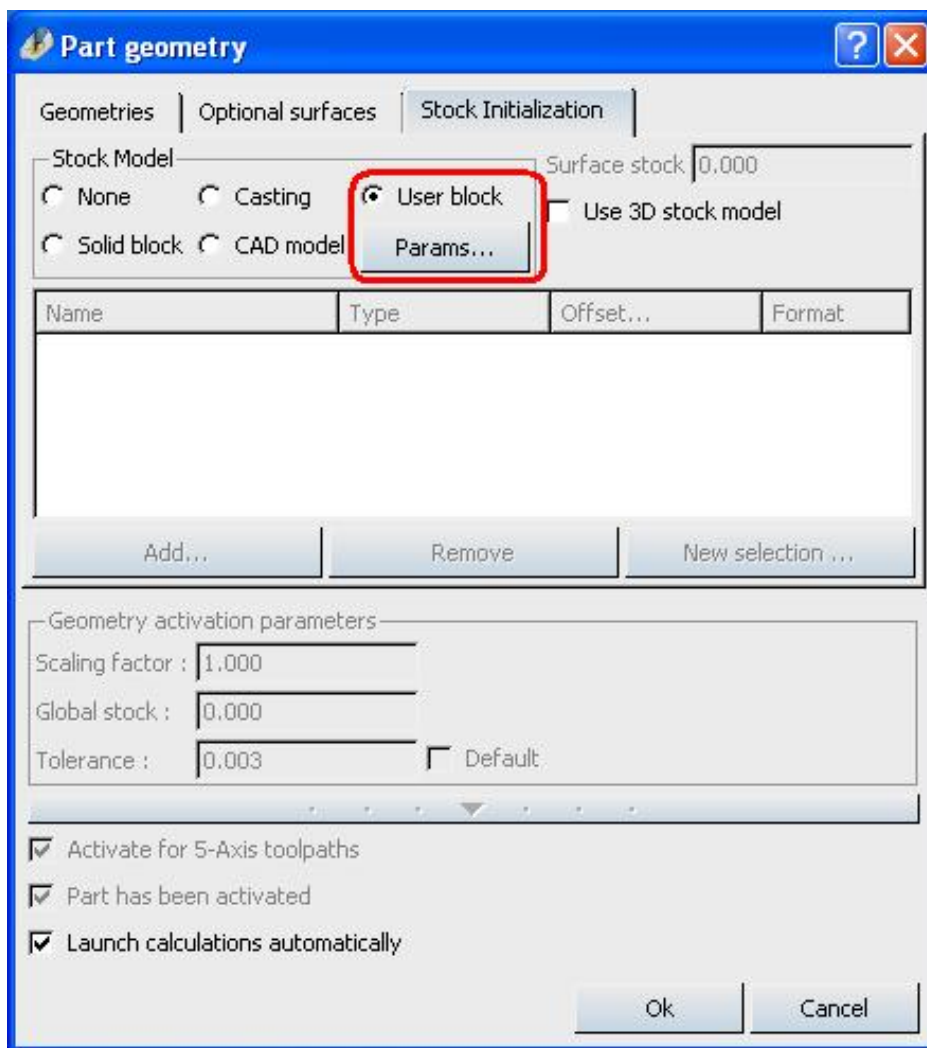

Figure 1 – Stock Model Creation dialog box
**Figure 1** shows the interface for creating a stock model. Notice now there is a *User block* selection. This will allow the user to make the stock model to any block size, regardless to the part extents found after the geometry activation.